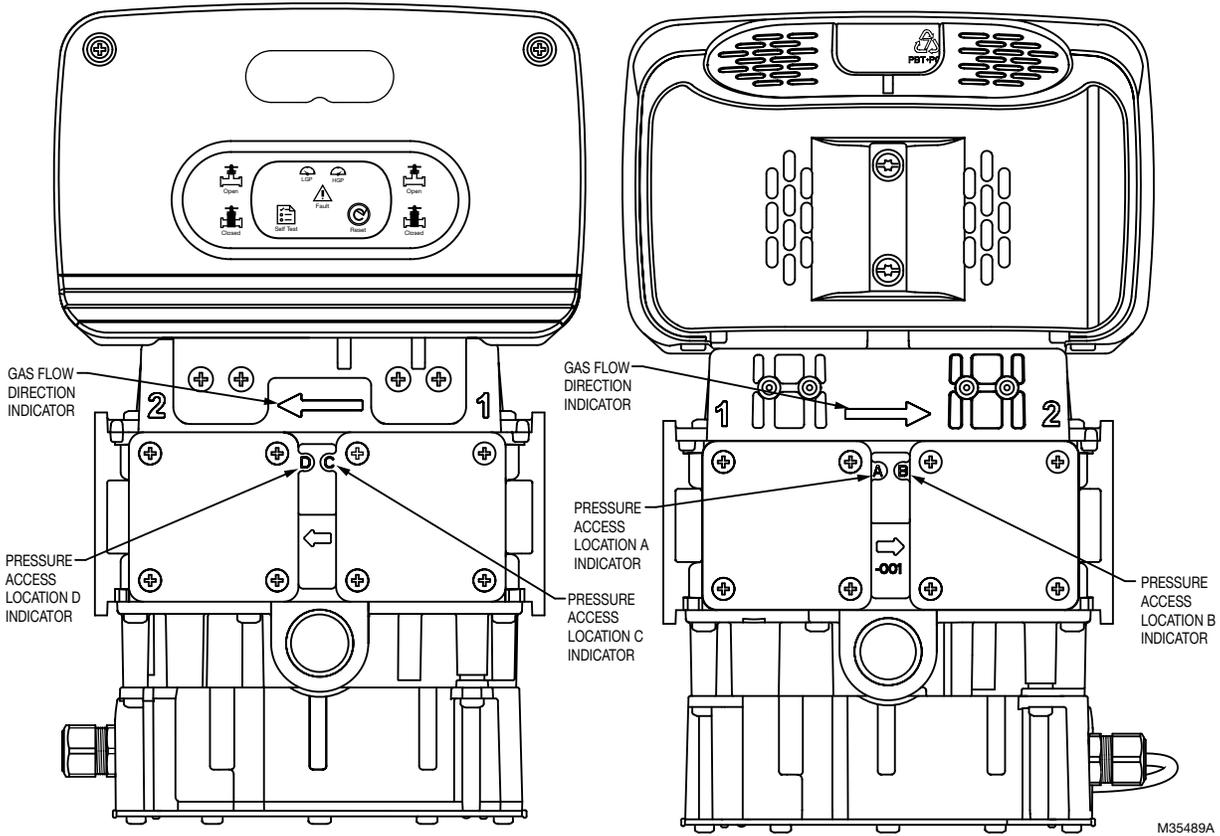
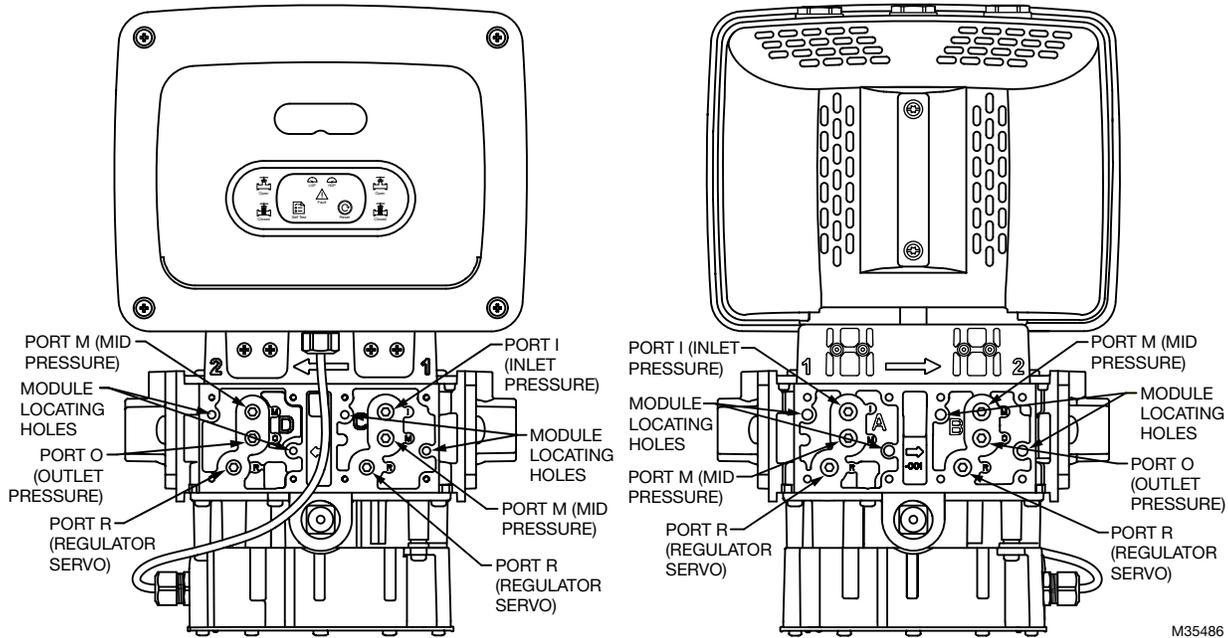

Fig. 20. Valve body and pressure port covers.
Fig. 21. Valve body and pressure ports.
- Accessing the Inlet (I) port of mounting locations A and C on V1 is not allowed for the Pressure Module. Refer to Fig. 21.
V1 seat mounting locations A and C access the Middle (M) and Inlet (I) pressure ports. V2 seat mounting locations B and D access the Outlet (O) and M (Middle) pressure ports. Refer to Fig. 21.
The available pressure port locations for V1 and V2 seats for both sides of the valve are shown in Fig. 21. Pressure switch types, placement and associated functionality information can be found in Table 5.
2. Select the correct pressure access location (A/B/C/D) to mount the C6097 and correct pressure port to open from the selection table. Refer to Table 5 and Fig. 21.
3. Remove the appropriate pressure access location cover (A/B/C/D) as identified in Fig. 20.
2. Remove the appropriate pressure port plug (O, M or I) from the side of the valve body as identified in Table 5, Fig. 20, and Fig. 21.
- b. Assemble the C6097 to the valve body by mating its two screw holes and seal with the valve body. Refer to Fig. 20.